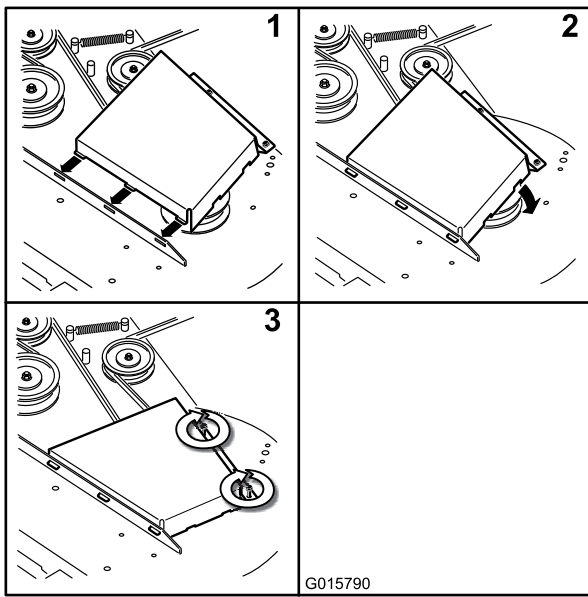

Figure 69
11. Install the belt covers (Figure 69).